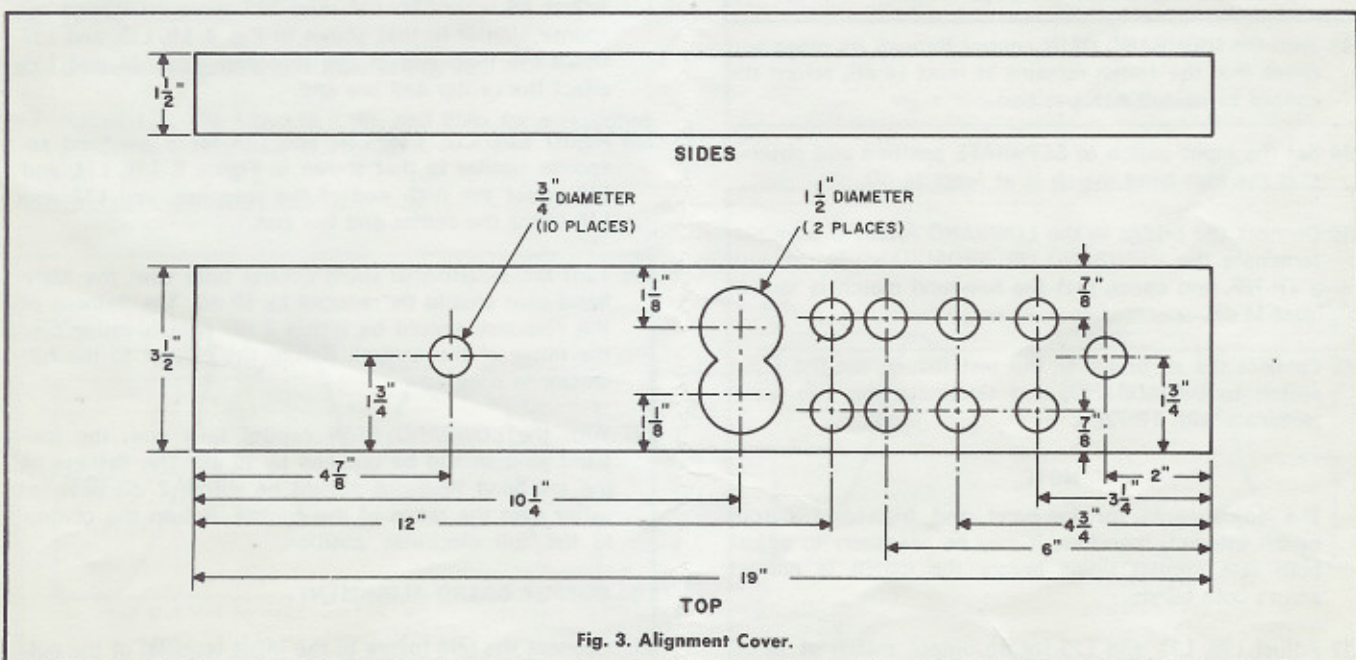

Fig. 3. Alignment Cover.
- 1.12 Alignment Cover (see Fig. 3).
- 2.4 Install the alignment cover (Fig. 3) on the unit.